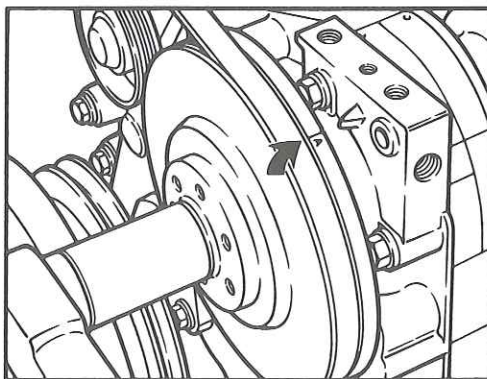

Fig. 4
1. Turn the crankshaft in the direction of rotation until the "A" mark is aligned with the pointer on the gear cover. See Fig. 4.